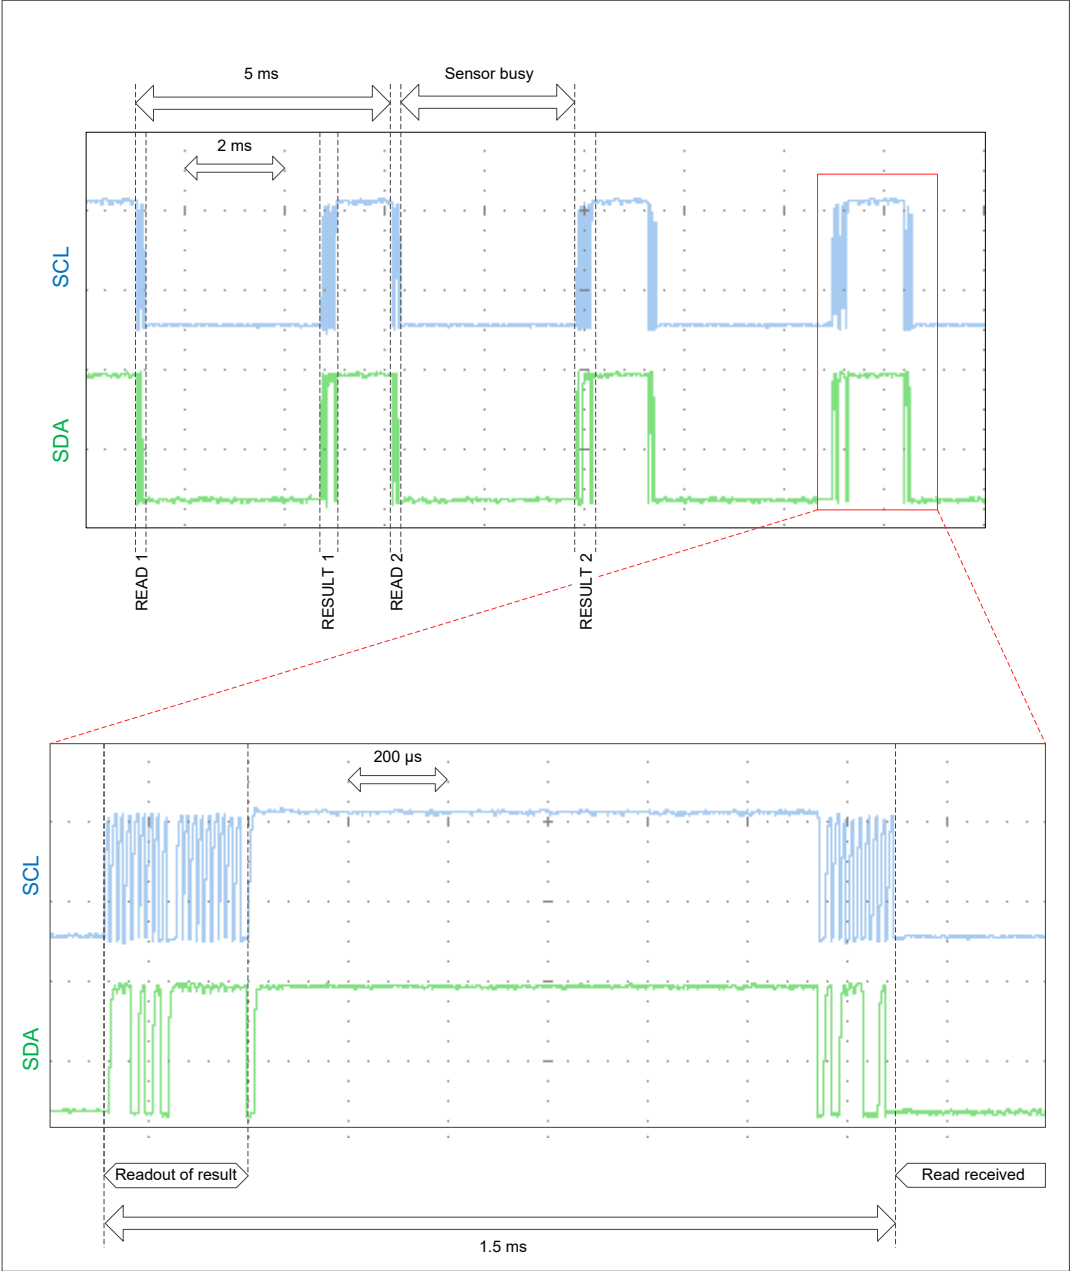

Fig. 4: Continuous mode operation
**DATA operation:** The sensor starts to send 2 data bytes containing the current pressure value (shown in Fig. 4 as "Readout of result").
// Write the command to the bus (not shown in Fig. 4).
/* ----- READ1 in Fig. 4 ----- */
/* ---- RESULT1 in Fig. 4 ---- */
/* ----- READ2 in Fig. 4 ----- */
/* ---- RESULT2 in Fig. 4 ---- */
Continuous mode and low-power mode differ only in how quickly subsequent I2C read commands (i.e., the sensor address with the R/W bit set to 1) are sent to the device. Specifically, if the time between the sensor starting to clock out a pressure result (marked as “readout of result” in Figure 4) and the time it fully receives the next I2C read command (marked as “read received” in Figure 4) is 1.5 ms or less, the device enters Continuous mode, which prevents the device from sleeping between conversions. Fresh data are available every 5 ms in this mode of operation.
// Write the command to the bus (not shown in Figure 4).